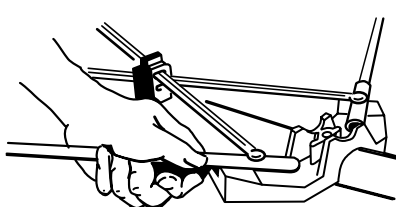

Fig. 4
3. Swing phasing rods (riveted to center section) into position on the front section and secure with wing nuts. (See Fig. 4).